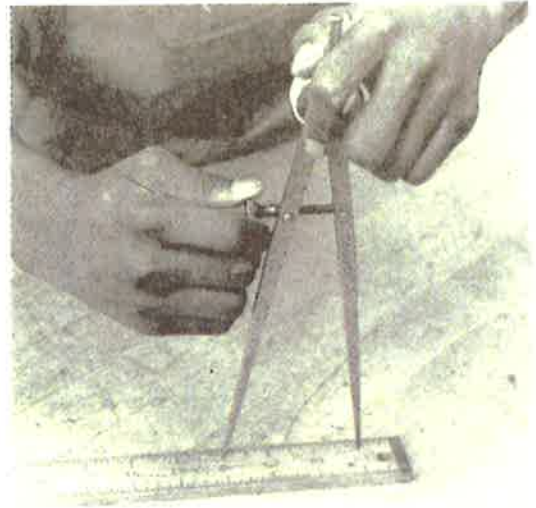

Fig. 13-3. Setting spring dividers for a desired distance. Here they are set for 3 inches.
1. Set the dividers, compass, or trammel points to the desired radius of the arc, curve, or circle. When dividers are used to set distances, one leg is placed on an inch mark of a rule. The other leg is then placed on a mark far enough away to make the distance desired (see Fig. 13-3). On most dividers, this distance is kept by locking the thumbscrew.